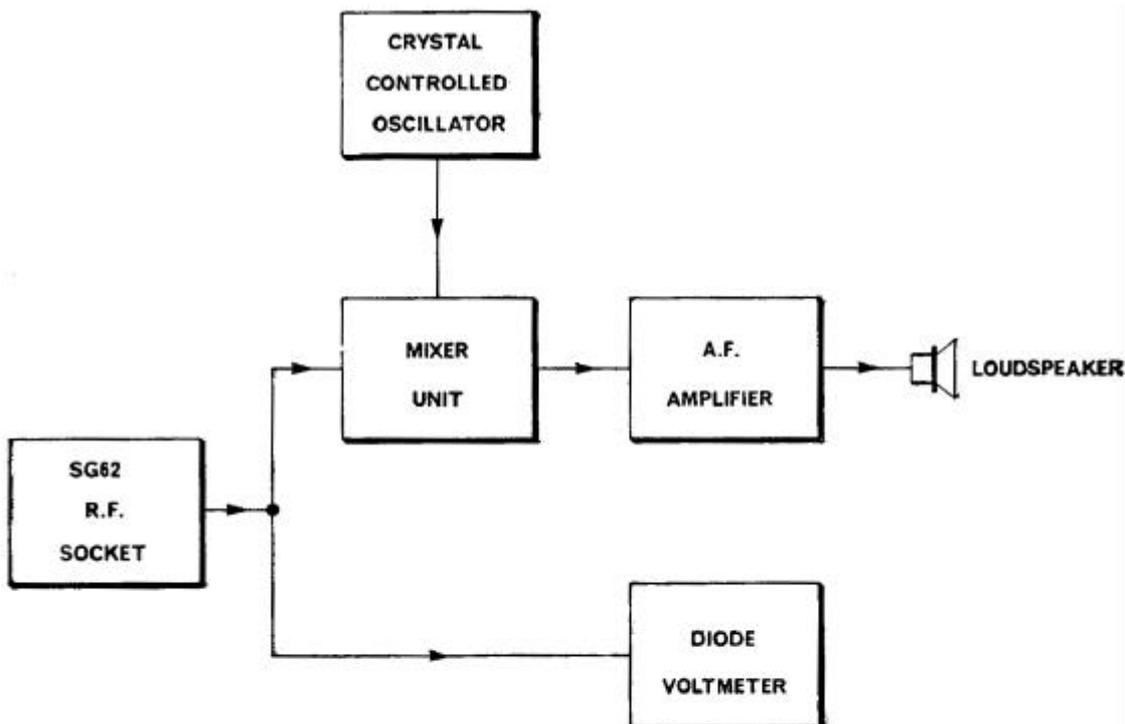

Fig. 2 Functional diagram - recalibration
- (1) Remove the instrument case and the screening can.
- (2) Switch the instrument on and allow at least twenty minutes to elapse before commencing recalibration.
- (3) Connect the R.F. output socket on the Signal Generator, via a suitably matched coaxial cable, to:—
- (b) A high input impedance mixer unit with a crystal controlled reference oscillator. The mixer output is then connected to a loudspeaker via an audio amplifier (See Fig. 2).
- (4) Set the OUTPUT VOLTAGE and the OUTPUT VOLTAGE/dB controls to their maximum settings.